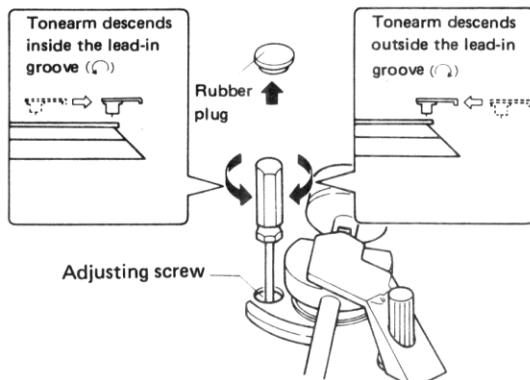

Fig. 12-1 Stylus lowering position
1. Remove the rubber plug (Fig. 12-1).